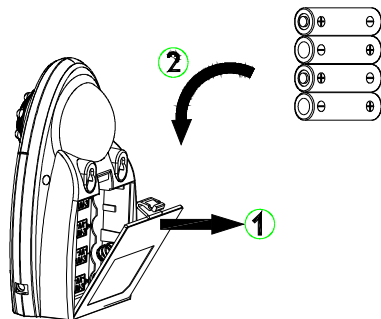

Fig. 3
1. Open the battery compartment cover on the rear of the camera.(Fig. 3)
2. Insert 4 AA-size batteries, ensuring that correct polarity is put. (Fig. 3)